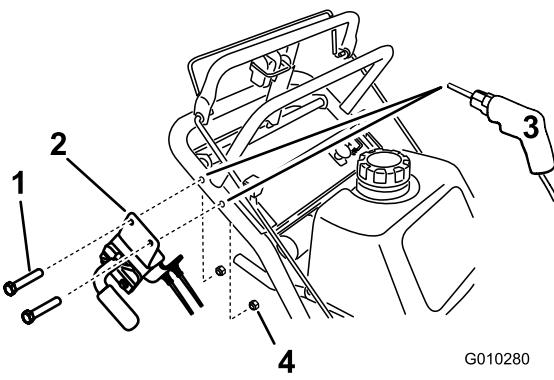

Figure 6
3. Install the handle assembly to the machine with 2 bolts (1/4 x 1-3/4 inches) and 2 locknuts (1/4 inch)(Figure 6).